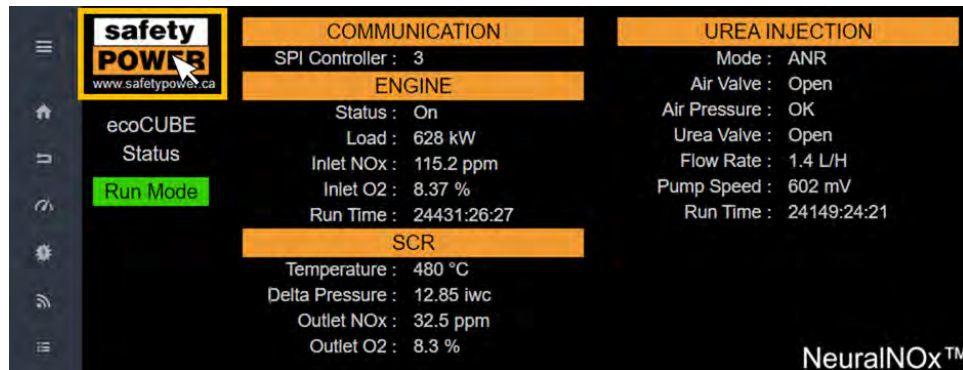

Figure 8.1: Click the Safety Power logo outlined by the yellow box on the HMI screen to open the SCD/SCX window
2. Press the Safety Power logo on the HMI screen (Figure 8.1)
2. Click the Safety Power logo on the HMI screen (Figure 8.1)
3. Press the Safety Power logo on the HMI screen (Figure 8.1)
3. Click the Safety Power logo on the HMI screen (Figure 8.1)